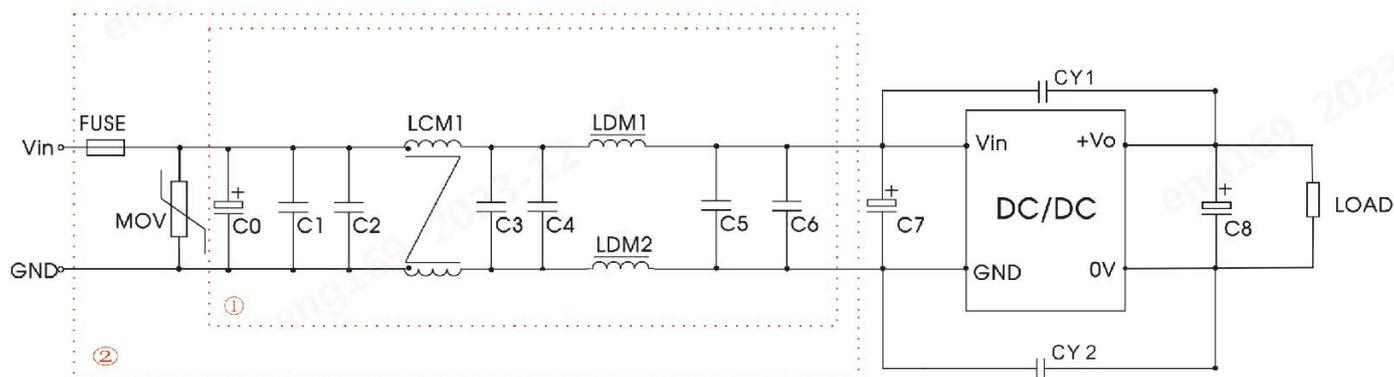

Fig. 3
RE	CISPR32/EN55032 CLASS B (see Fig.3-①)